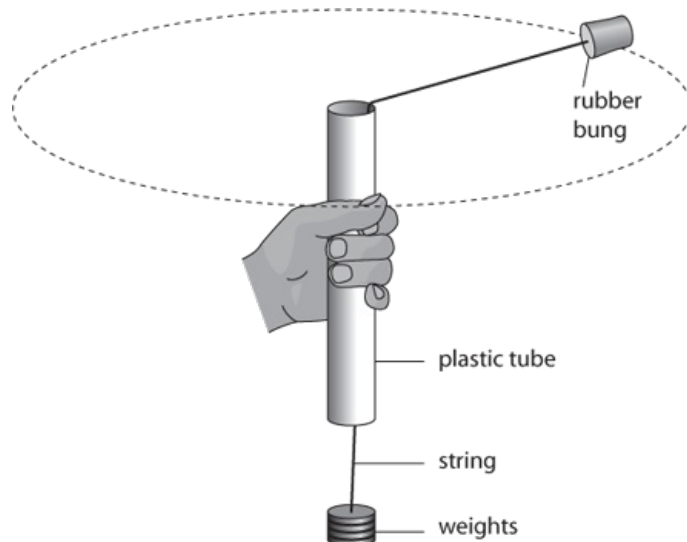

Figure 10.1: Rubber bung, attached by string to weight, through tube in motion.
- 1 Set up the apparatus as shown in Figure 10.1.